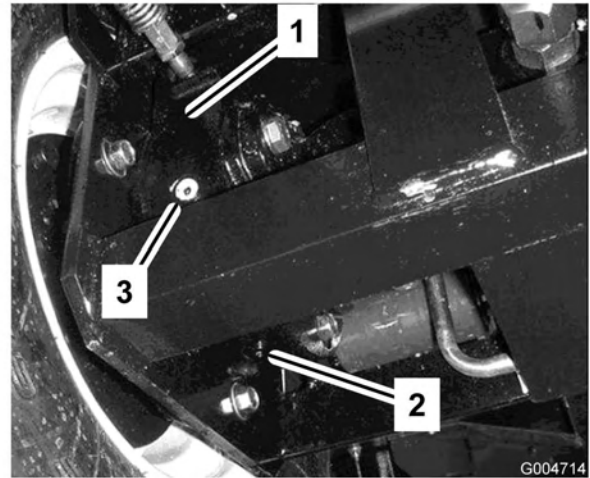

Figure 57
4. Place a drain pan under the brake housing on the other side of the wheel (Figure 57).
7. Remove check plug from brake housing (Figure 57).